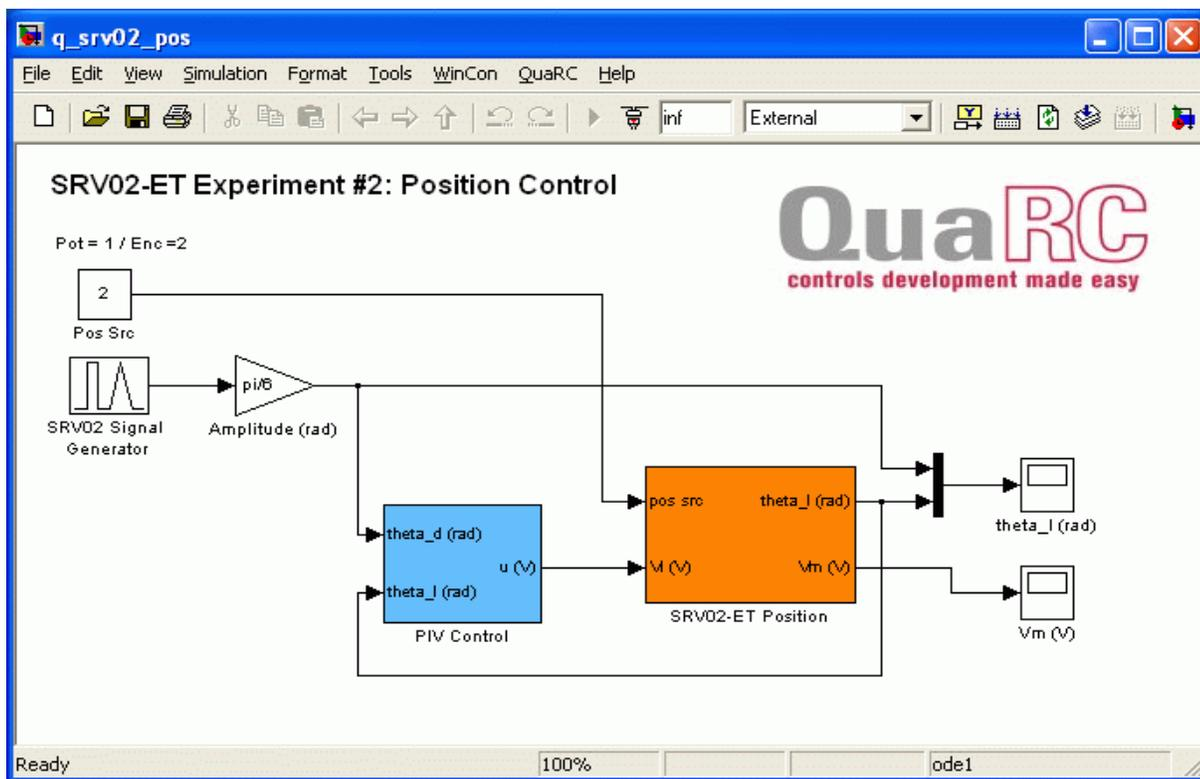

Figure 14: Simulink model used with QUARC to run the PV and PIV position controllers on the SRV02.
The  $q\_srv02\_pos$  Simulink diagram shown in Figure 14 is used to perform the position control exercises in this laboratory. The *SRV02-ET* subsystem contains QUARC blocks that interface with the DC motor and sensors of the SRV02 system, as discussed in Reference [6]. The *PIV Control* subsystem implements the PIV control detailed in Section 4.3.2, except a high-pass filter is used to obtain the velocity signal (as opposed to taking the direct derivative).
4. Double-click on the `q_srv02_pos.mdl` file to open the Position Control Simulink diagram shown in Figure 14.
6. **Configure Sensor:** The position of the load shaft can be measured using various sensors. Set the *Pos Src* Source block in `q_srv02_pos`, as shown in Figure 14, as follows: